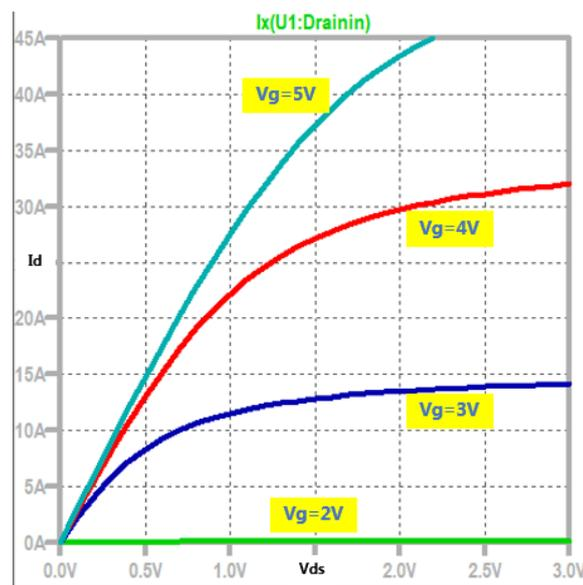

Fig. 6. InnoGaN output LTspice simulation result
- 4. Set simulation parameters and run.** Set the simulation parameters according to the simulation requirements. The simulation results of the device output curve are shown in Figure 6.